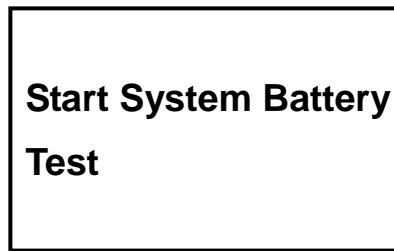
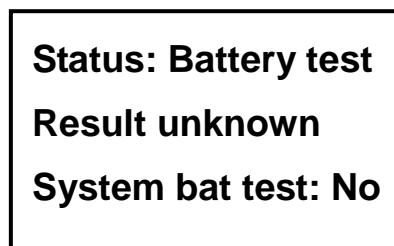

Fig. 4-15
Fig. 4-16
2). Press  button and enter the submenu of **“Control”** (Fig. 4-15).
The first item of the submenu of **“Control”** is **Start System Battery Test** (Fig. 4-15). Press  button and LCD displays as Fig. 4-16.